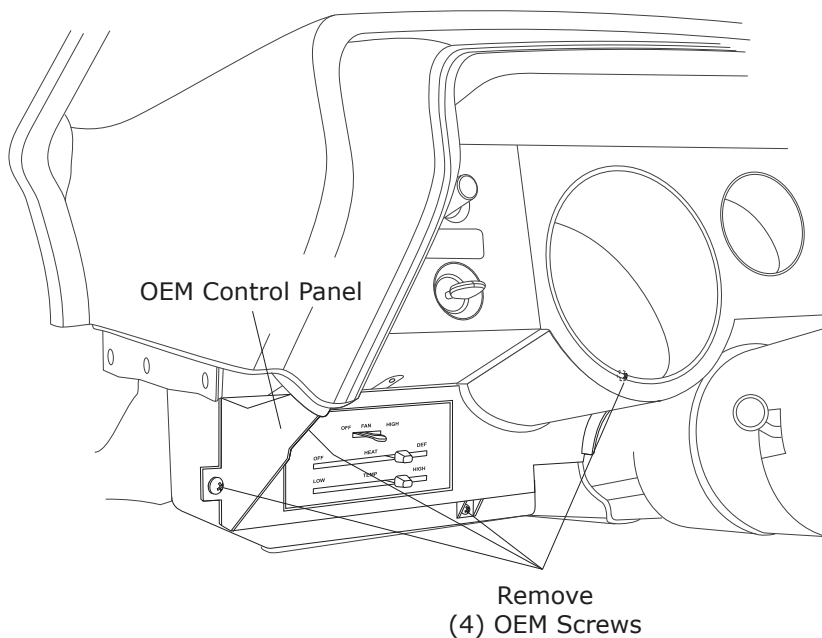

Figure 2
4. Remove the OEM control panel (See Figure 2, below).